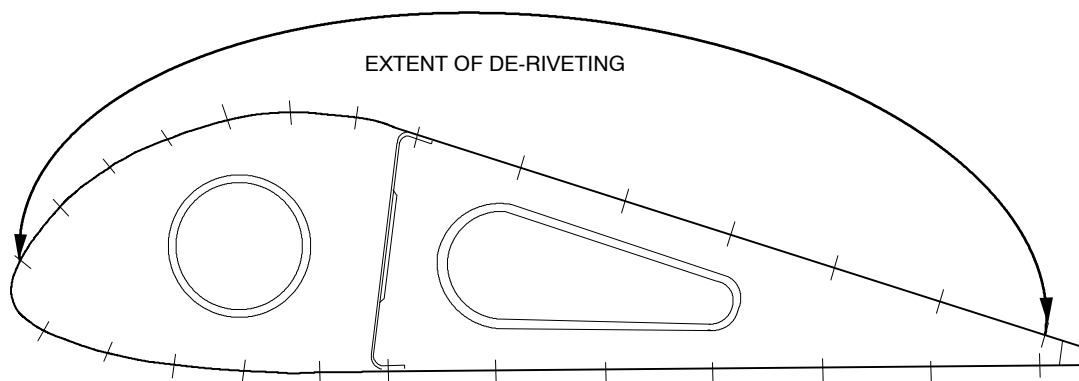

Figure 2 Extent of Aileron De-riveting
- (6) De-rivet and partially remove the upper leading edge skin and trailing edge skin to allow access to both sides of the aileron spar (Ref Figure 2).